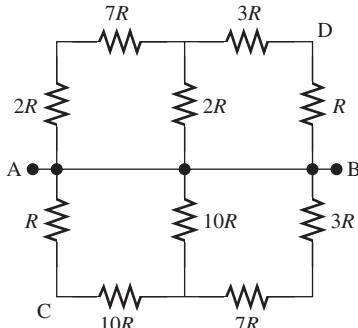

FIGURE P3.11 Resistor network for Problem 3.11.
- 3.11 (H)*** For Figure P3.11, find (a) the equivalent resistance, R_{AB} and (b) the equivalent resistance R_{CD} .